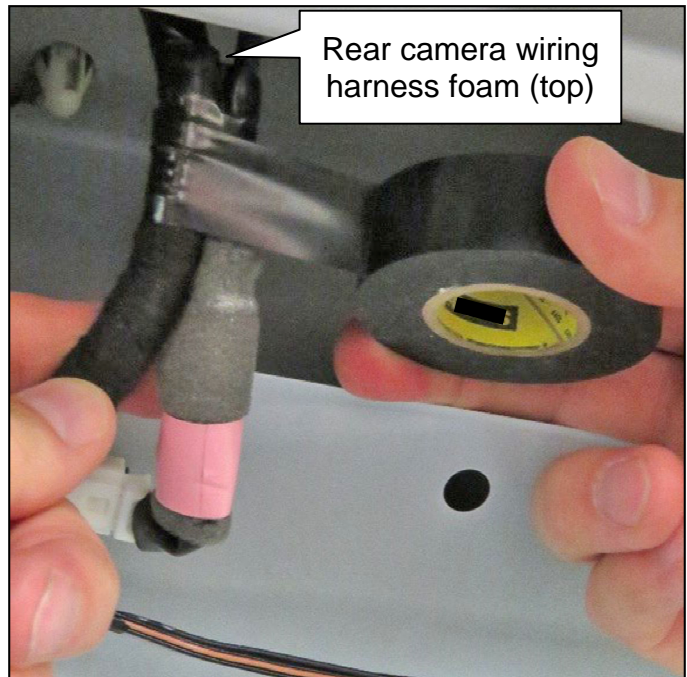
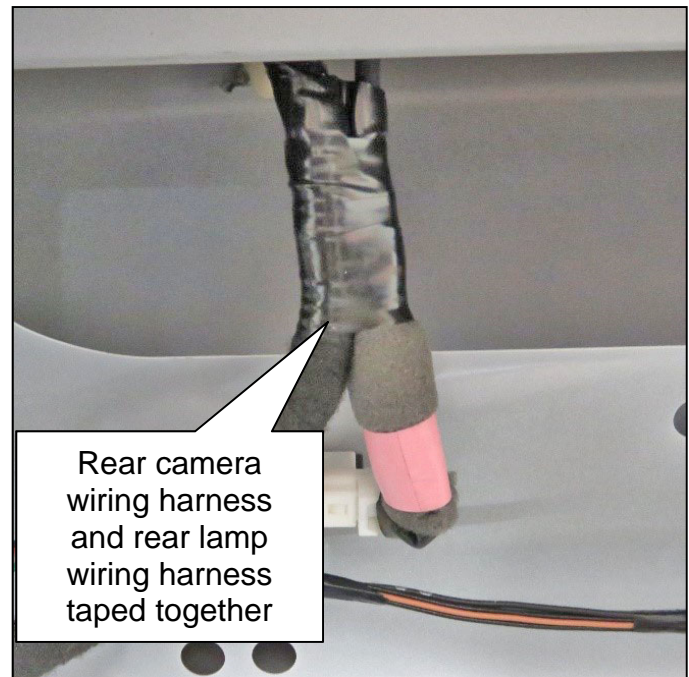

Figure 23
Figure 24
25. Starting at the top of the rear camera wiring harness foam, wrap tape around the rear camera wiring harness and the rear lamp wiring harness for a length of 40 mm, as shown in Figure 23 and Figure 24.